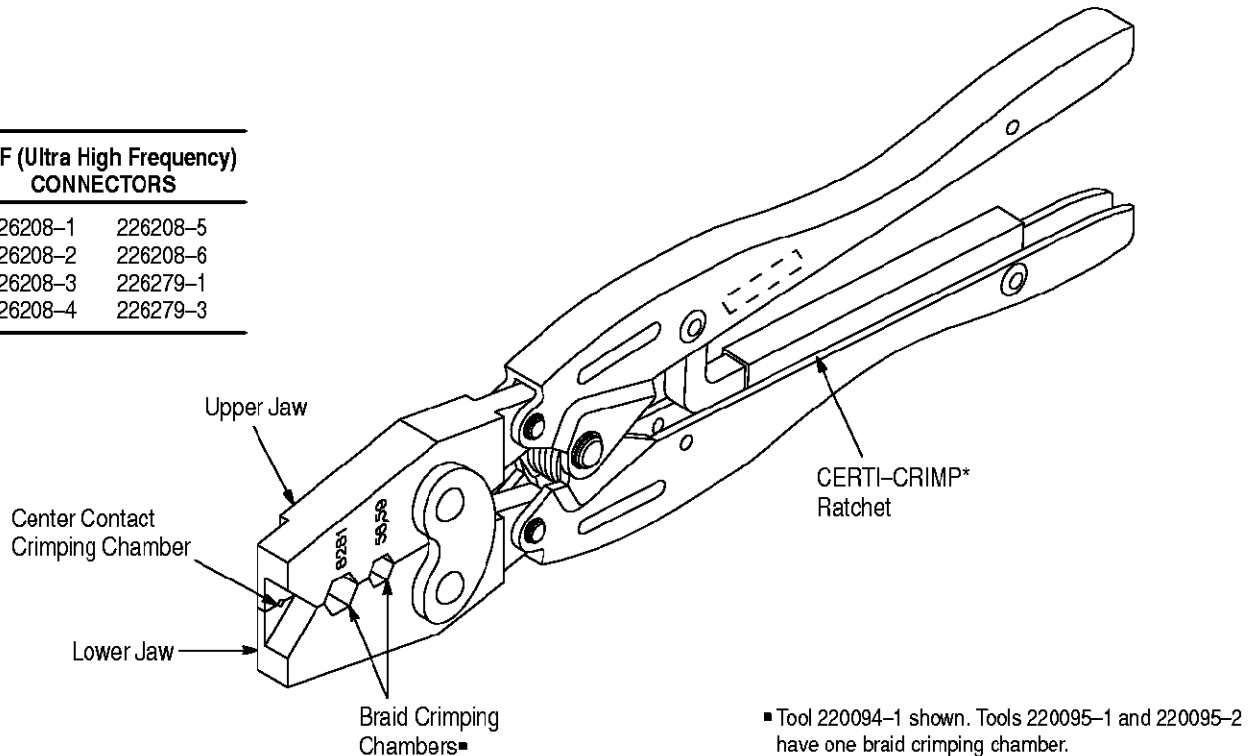

Figure 1
AMP* Hand Crimping Tools 220094-1, 220095-1, and 220095-2 are used to crimp UHF (ultra high frequency) connectors listed in Figure 1.
2. DESCRIPTION (Figure 1)